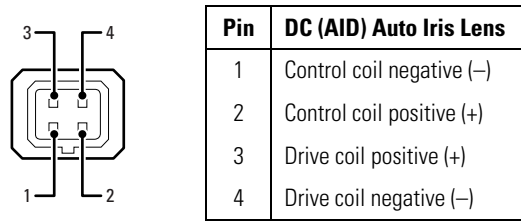

Figure 4. Lens Pin Connections
- c. Connect the auto iris lens to the 4-pin connector located on the side of the camera. Refer to Figure 4 for the pin connections for the auto iris lens connector.